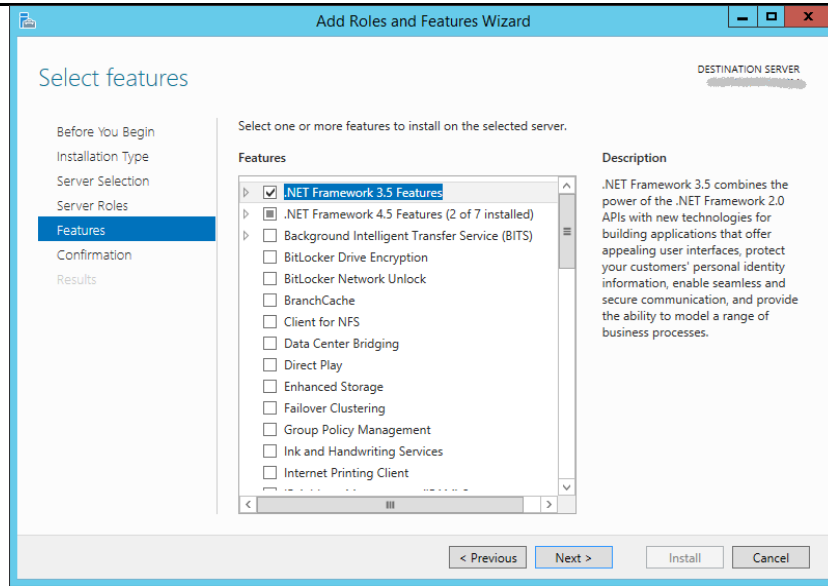

Figure 6 - Features section of the Add Roles and Feature wizard
6. Select options as shown in Figure 6.